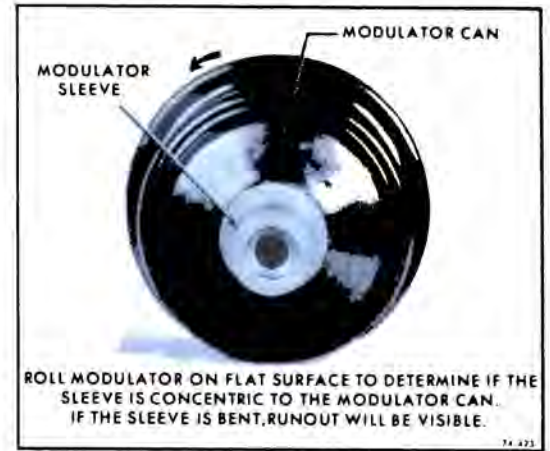

Figure 74-365—Checking Modulator Sleeve Alignment
2. Check modulator valve sleeve alignment. Roll modulator on a flat surface to determine if the sleeve is concentric to the modulator can. See Figure 74-365. If the sleeve is bent, runout will be visible, and modulator must be replaced.